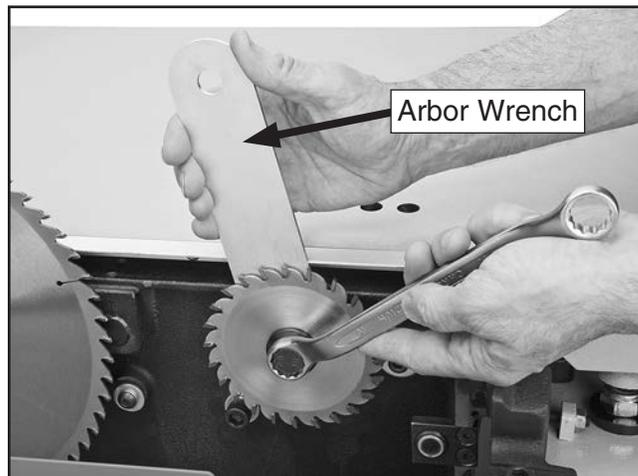

Figure 16. Tightening the scoring blade arbor nut.
6. To make sure the scoring blade arbor nut is fully tightened, hold the arbor wrench on the arbor behind the blade and use the wrench on the nut to tighten it clockwise, as shown in **Figure 16**.